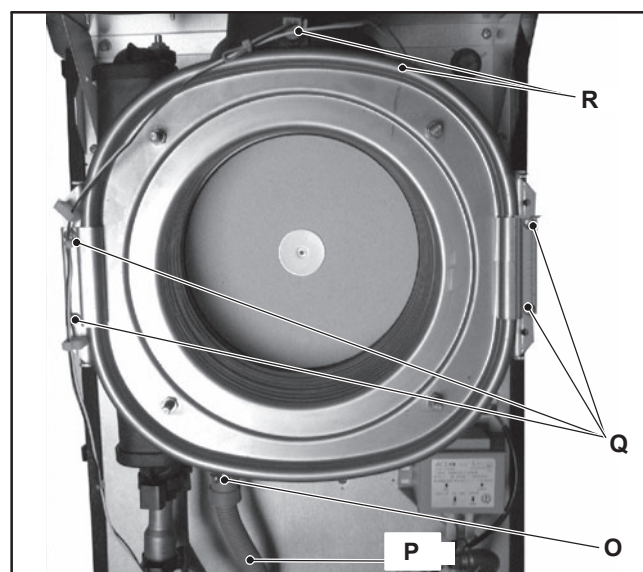

Figure 5.3
- 11 Using pliers, remove the spring O moving it downwards and disconnect the rubber pipe P (Figure 5.3).
- 12 Unscrew the screws Q and remove the clamps (Figure 5.3).
- 13 Disconnect the two connectors R by pressing the plastic hook placed on the side of the connector (Figure 5.3).